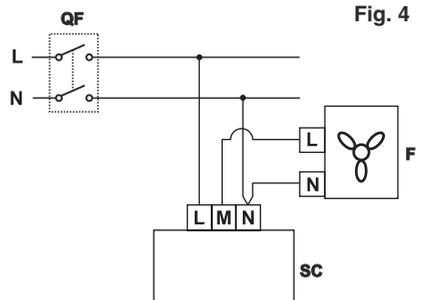

Fig. 4
1. Remove the control knob (1);
2. Unscrew the nut (2) to release the washer (3), the ring (4) and covers (5 und 6);
6. Connect the wires to the terminal block located on the controller circuit board in compliance with the wiring diagram (fig. 4) and the sticker on the terminal block;
7. Install the speed controller inside the mounting box so that the terminal block is located on the top and fix it with screws (7);